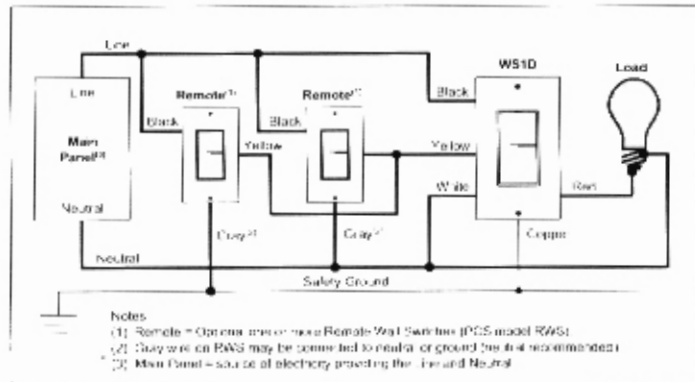

Figure 3: Wiring Diagram
- Install the WS1D Wall Switch connecting wires per wiring configuration shown in Figure 3.
- Optionally install any RWS Remote Wall Switch per wiring configuration shown in Figure 3.